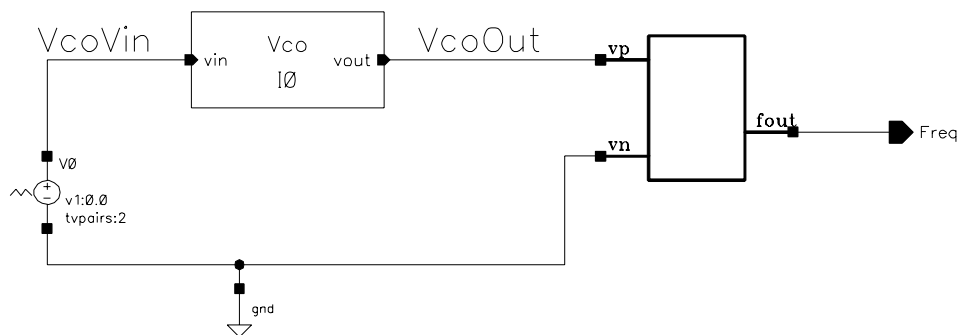

Figure 8. Test bench schematic for VCO.
- Instantiate the **VCO** and the **FreqMeter** from your lab library as well as one **vpwl** voltage generator and a **gnd** symbol from the **analogLib** library. The schematic should look like in Figure 8.